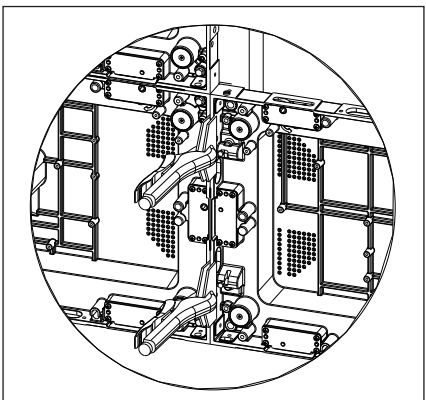

Figure 17: Clamp Panels Together
5. Clamp the panels together. Refer to **Figure 17**.